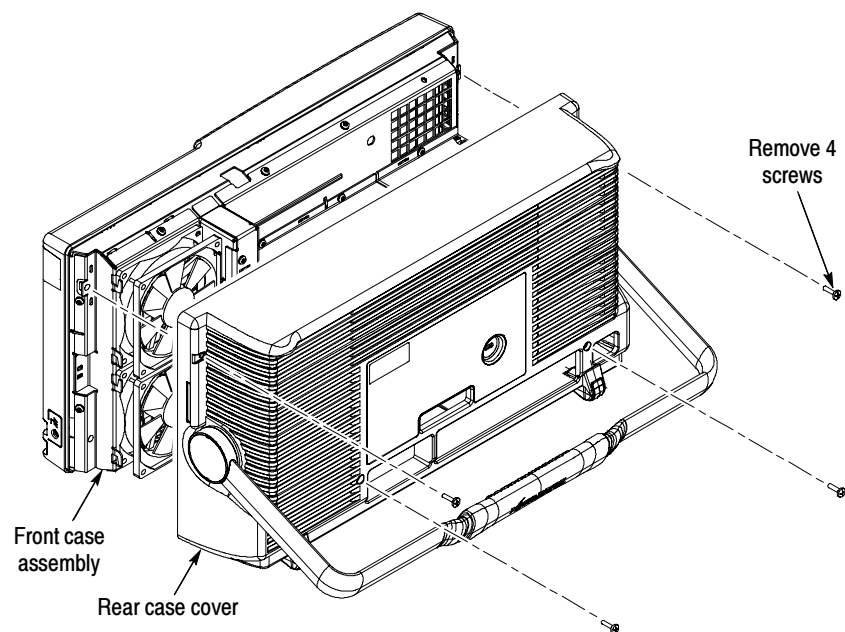

Figure 4: Removal of rear case cover
2. Remove the four T-15 TORX screws that secure the rear cover to the front case assembly. See Figure 4.